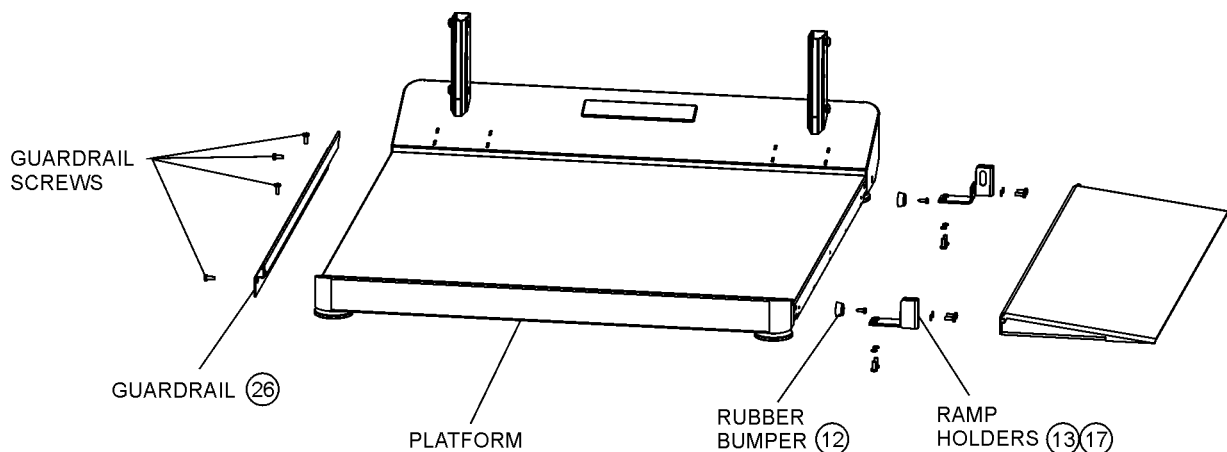

Figure 4. Ramp Moving
1. Remove the guardrail at the end of the platform by unscrewing 4 screws. (see Figure 4)